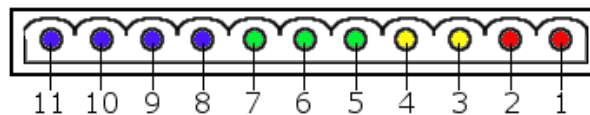

Figure 5-4 - Connector Pins
- Make sure the terminals are wired as shown in Figure 5-4 on page 5-3; failure to connect power correctly could result in irreversible product damage that is **NOT** covered by warranty.
5. Connect the wires as follows; refer to Figure 5-4 below:
6. Connect power and input/output connections to the application controller hardware; refer to Figure 5-4 on page 5-3.